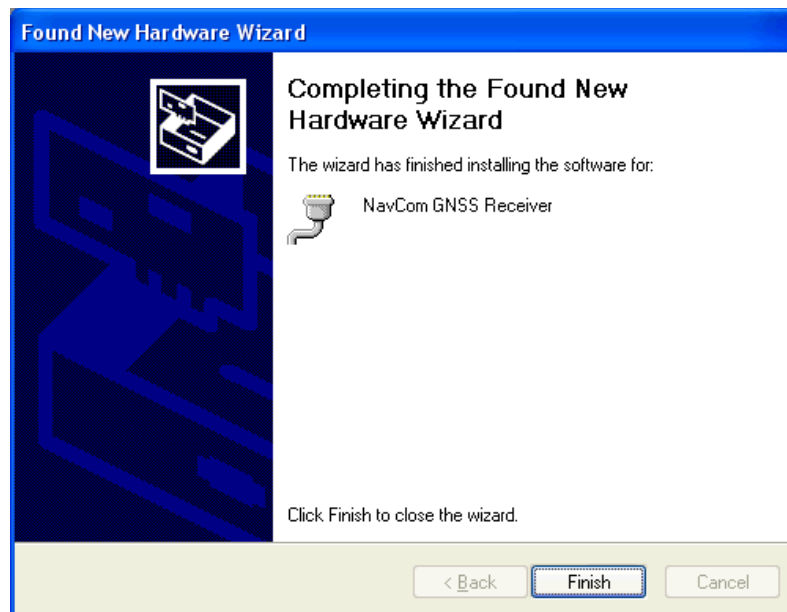

Figure 9: Completing the Found New Hardware Wizard
8. Click *Finish* on the *Completing the Found New Hardware Wizard* message dialog box (see Figure 9).